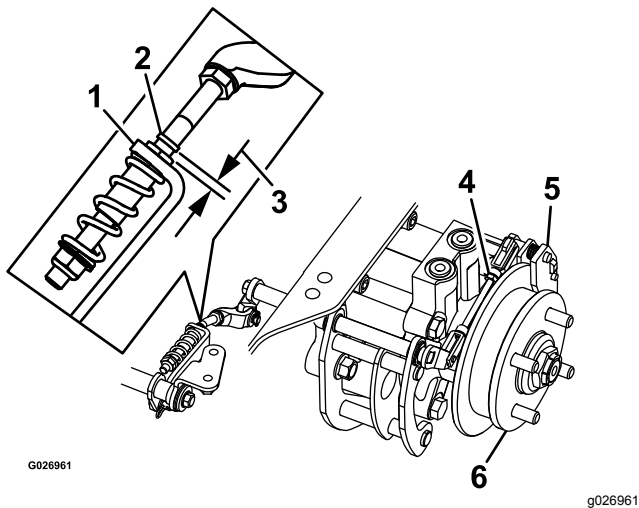

Figure 78
7. Check to see if there is a visible gap between the L-bracket and the linkage stop (Figure 78).